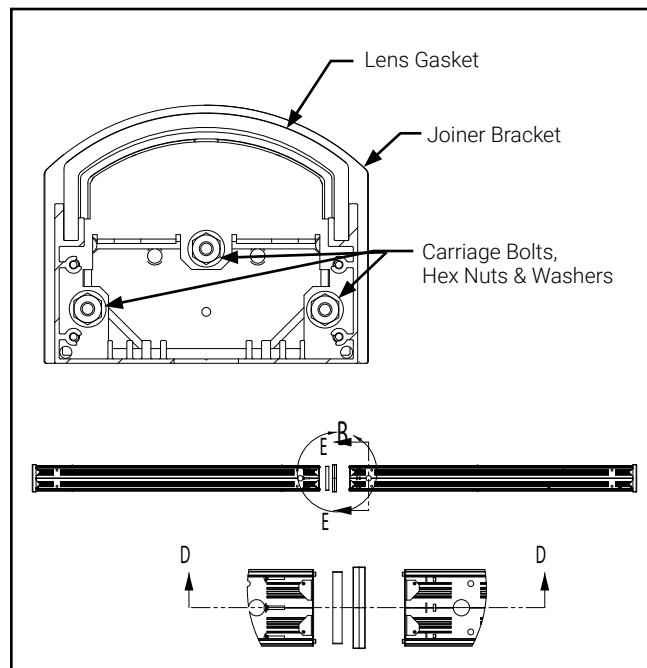

Figure 4.
4. Tighten the 3 hex nuts on inside of channel, Figure 4. Do not exceed 20 in-lbs. Plug any unused conduit opening in channel with plug provided.